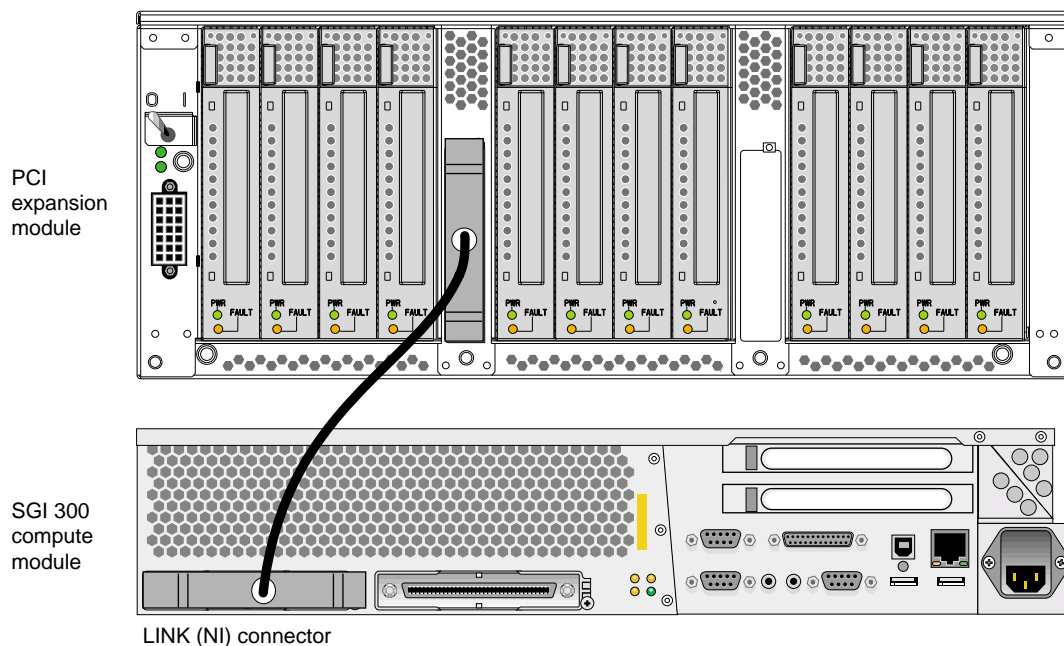

Figure 3-15 Connecting SGI 300 Compute Module to PCI Expansion Module
The PCI expansion module contains one BIC that connects to the NUMAlink [LINK (NI)] port of an SGI 300 compute module in a system that does not contain a NUMAlink module (see Figure 3-15).